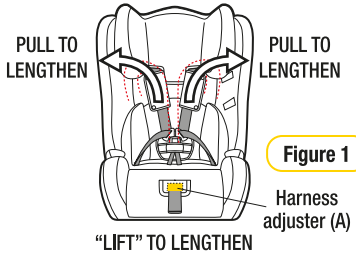

Figure 1
- Step 2:** To lengthen the harness “LIFT” the harness adjuster (A) (refer Figure 1) whilst grasping both shoulder harness straps and pulling. Ensure shoulder straps are pulled equally on each side.
- Step 3:** Lay the two harness straps (with tongues) to the sides of the child restraint (refer Figure 1).